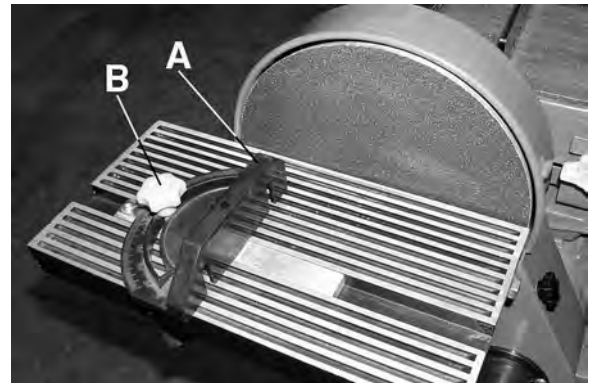

Figure 17
This miter gauge is used to hold and support the work piece at a chosen angle during a sanding operation. The miter gauge body (A) Fig.17 angle can be adjusted.
1. Loosen lock knob (B) and reposition to the desired angle.
2. Retighten lock knob (B) to lock into the desired angle.